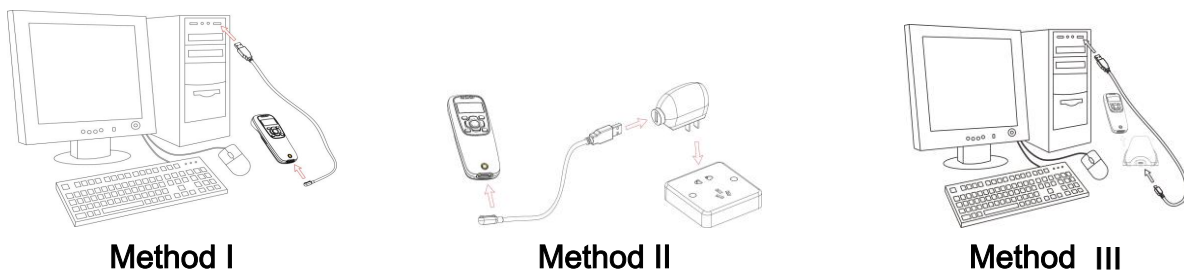

Figure 3-1 Diagram of charging battery
- 1) **Please charge the terminal before the first time of use.** There are three methods of charging battery as demonstrated in Figure 3-1. The charging indicator (red LED) on the terminal is turned on when the charging is in process. When the charging process completes, the red LED is turned off.